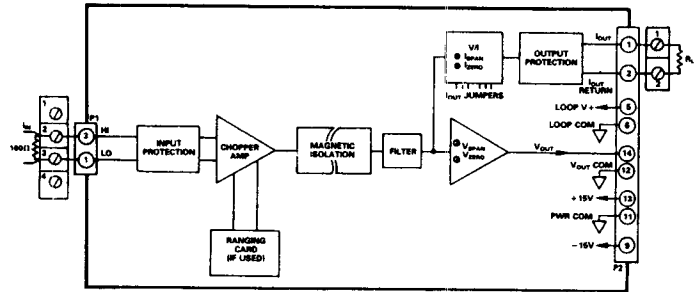

Figure 2.1.2.1 OM3-II Functional Block Diagram
1. Connect model OM3-I (OM3-II) as shown in Figure 2.1.2.1 with $R_L = 250\Omega$.